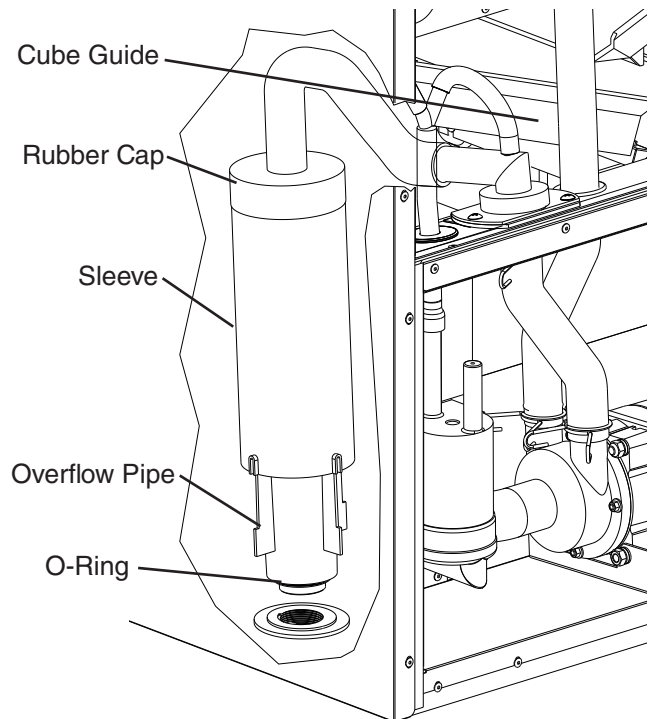

Fig. 8
- 3) Drain the water tank. Remove the front insulation panel, then slide the cube guide to the right. Remove the rubber cap and sleeve covering the overflow pipe. See Fig. 8. Unscrew the overflow pipe. After the water tank has drained, reconnect the overflow pipe. Replace the rubber cap, sleeve, cube guide, and front insulation panel in their correct positions. **NOTICE! Make sure the O-ring is attached to the bottom of the overflow pipe and be careful not to cross thread the overflow pipe.**